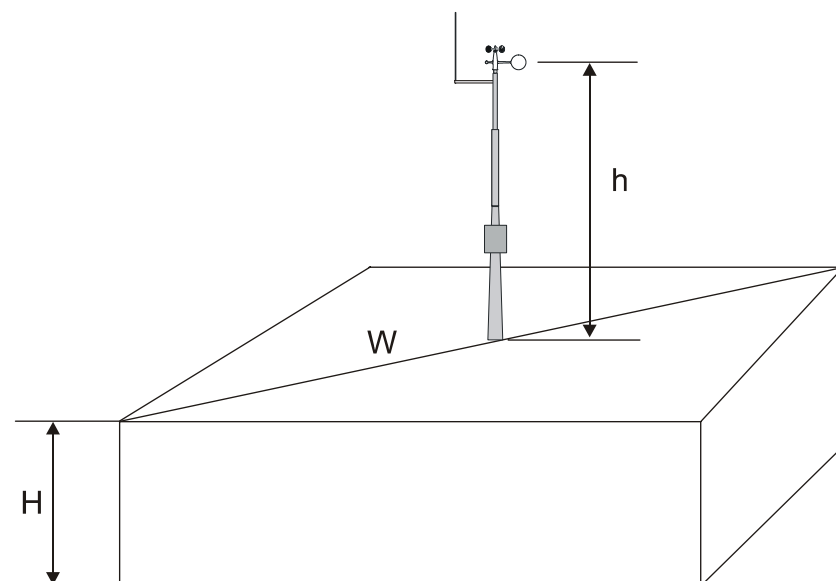

Figure 36 Recommended Mast Length on the Top of a Building
The recommended minimum length (h in Figure 36 on page 50) for the mast that is installed on the top of a building is 1.5 times the height of the building (H). When the diagonal (W) is less than the height (H) the minimum length of the mast is $1.5 \times W$.